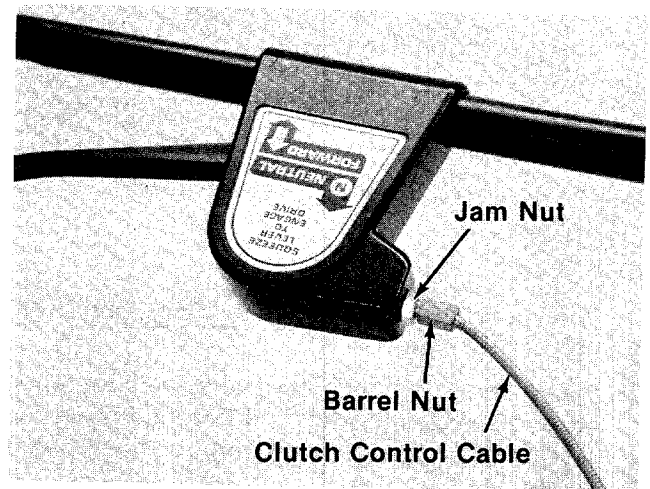

FIGURE 16.
1. To increase belt tension, loosen jam nut and back off two or three threads. Thread the barrel nut on end of control cable outward two or three threads. Retighten jam nut. See figure 16.
2. To decrease belt tension, loosen jam nut and back off two or three threads. Thread the barrel nut on end of control cable inward two or three threads. Retighten jam nut. See figure 16.